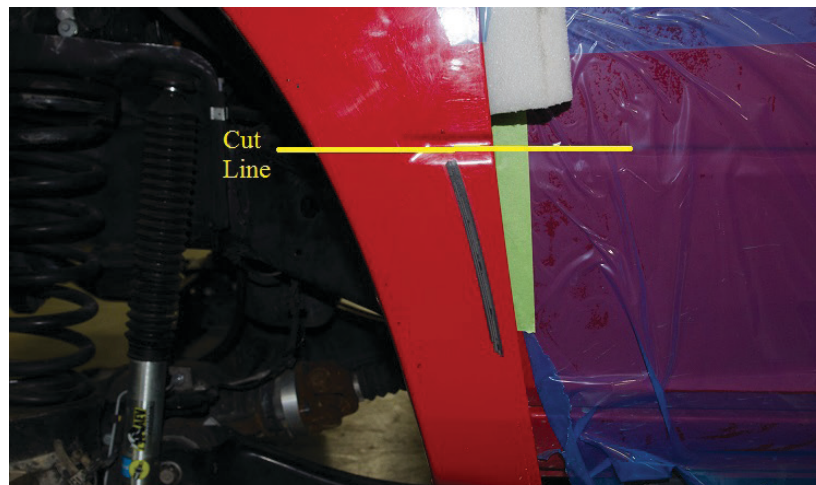

Figure 12
- A. Cut the fenders at the body line using a cut off wheel or air saw (fig. 12).